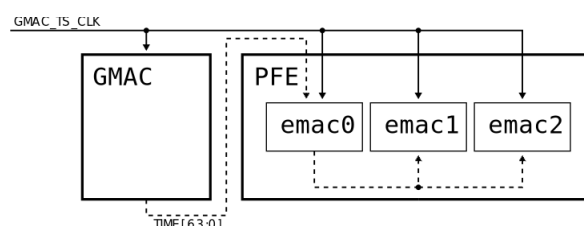

Figure 8.1: S32G2 IEEE1588 clock distribution
S32G platform allows multiple clock configurations depicted in figure 8.1.
8.1.1 Internal Timestamp Mode(full line figure 8.1)
8.1.2 External Timestamp Mode(dashed line figure 8.1)